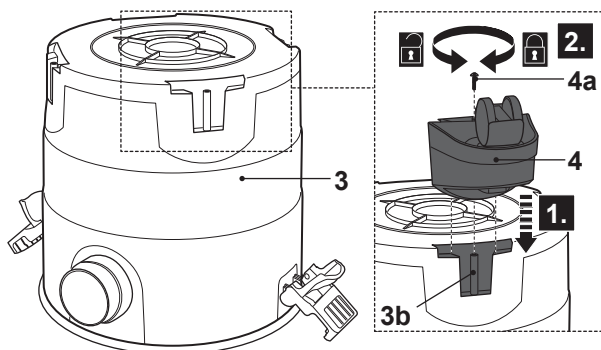

Fig. 3
- > Place the tank (3) upside down on a flat, stable surface.
- > Align and slide the castors (4) onto the wheel supports (3b). Secure the connection with the screws (4a), using a suitable crosshead screwdriver (Fig. 3).